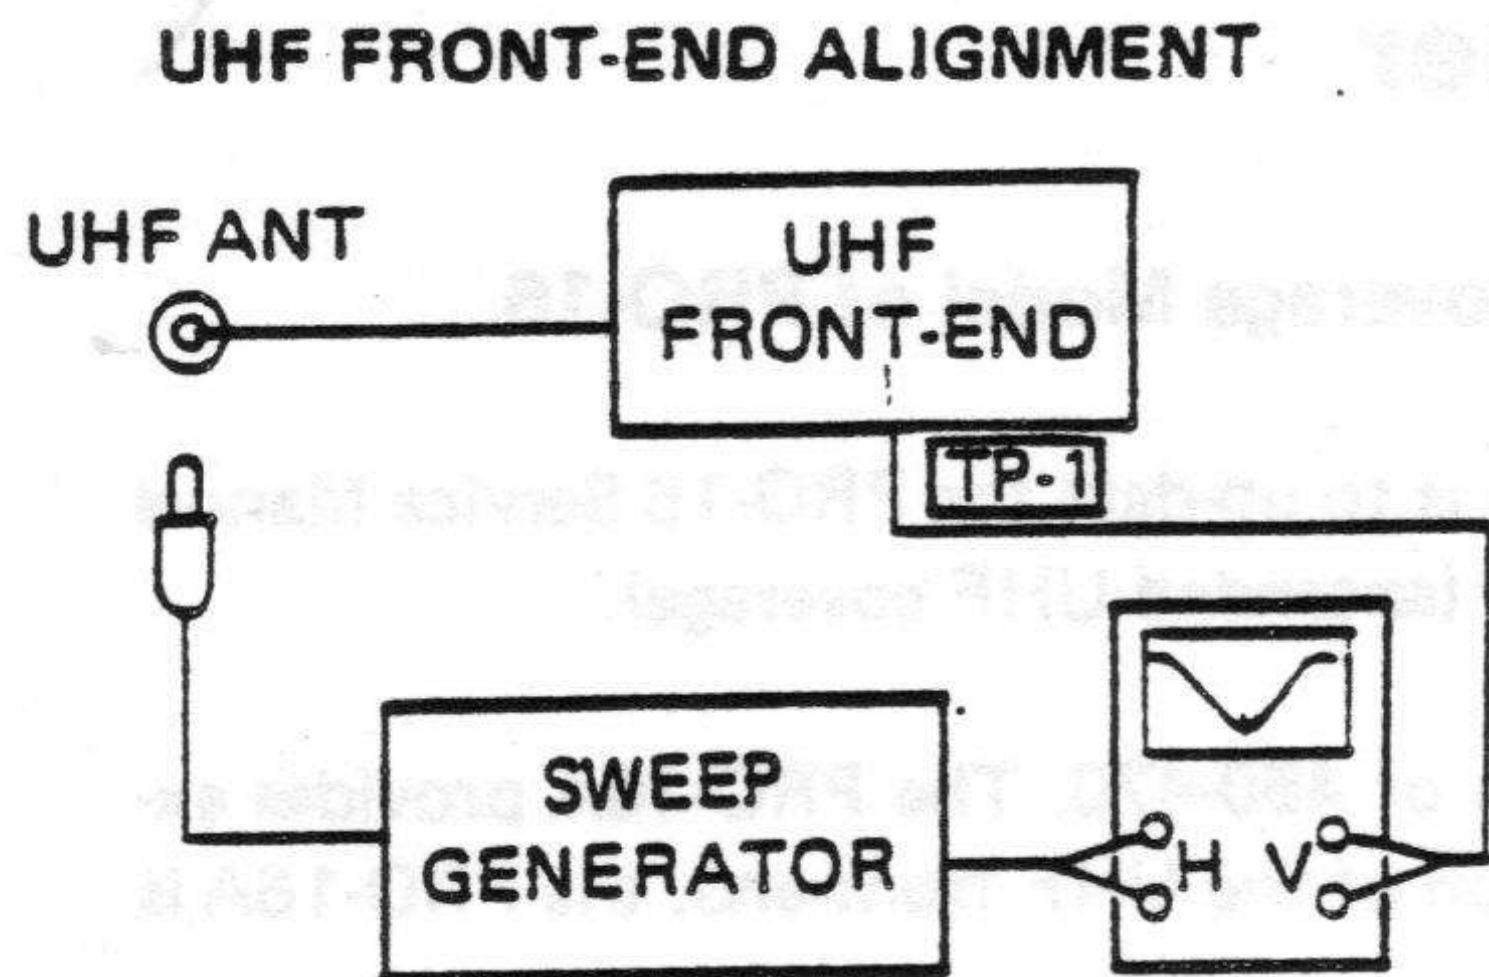

Figure 1
Step 1: Connect the instruments as shown in Figure 1.